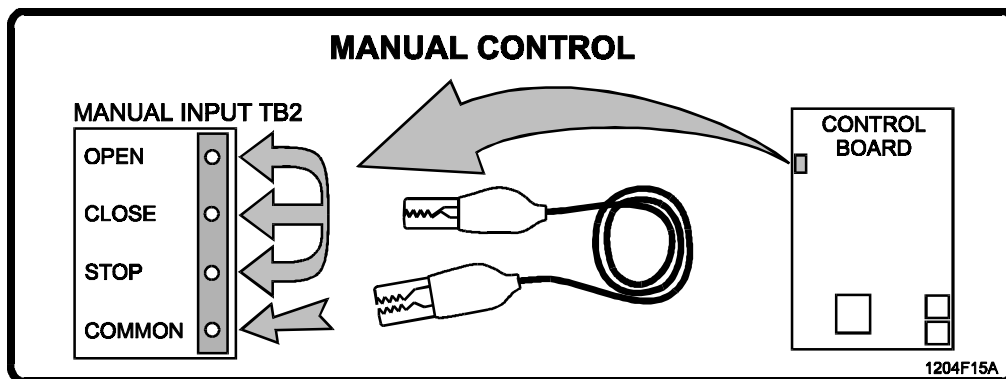

Figure 13. Manual Controls, Location and Operation.
3. Using the manual controls (Figure 13), initiate gate opening, then stop the gate about one foot short of its fully open position.